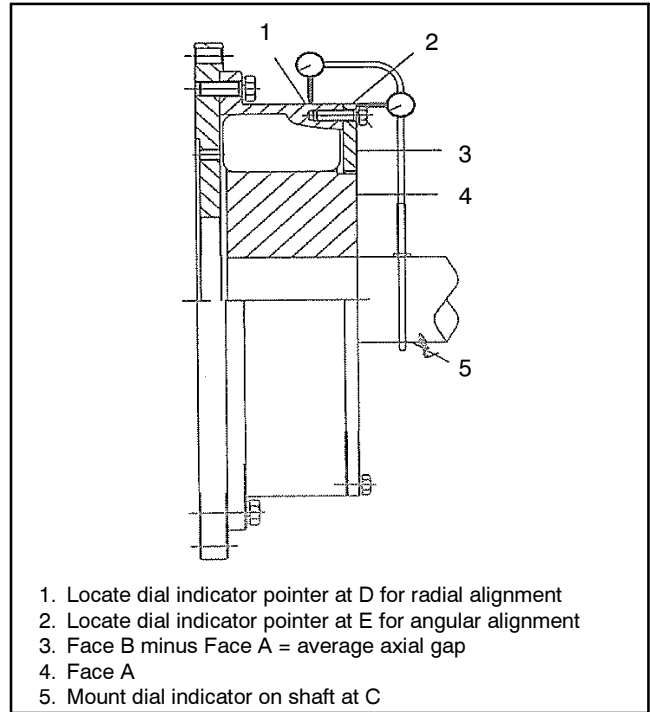
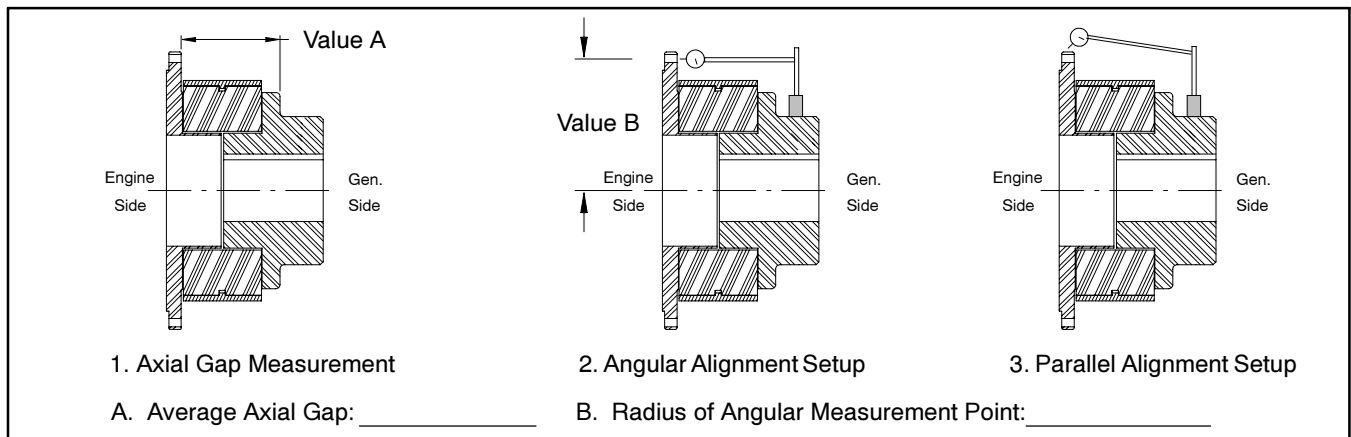
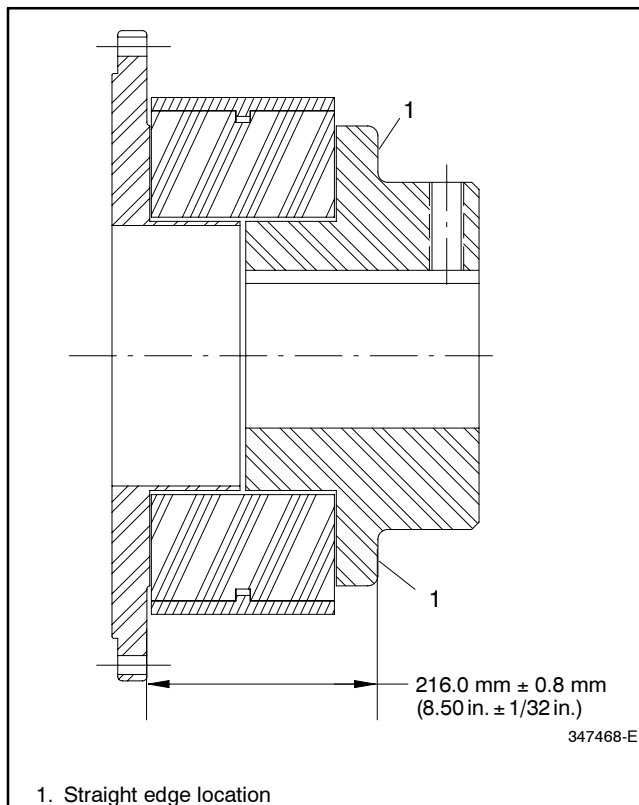
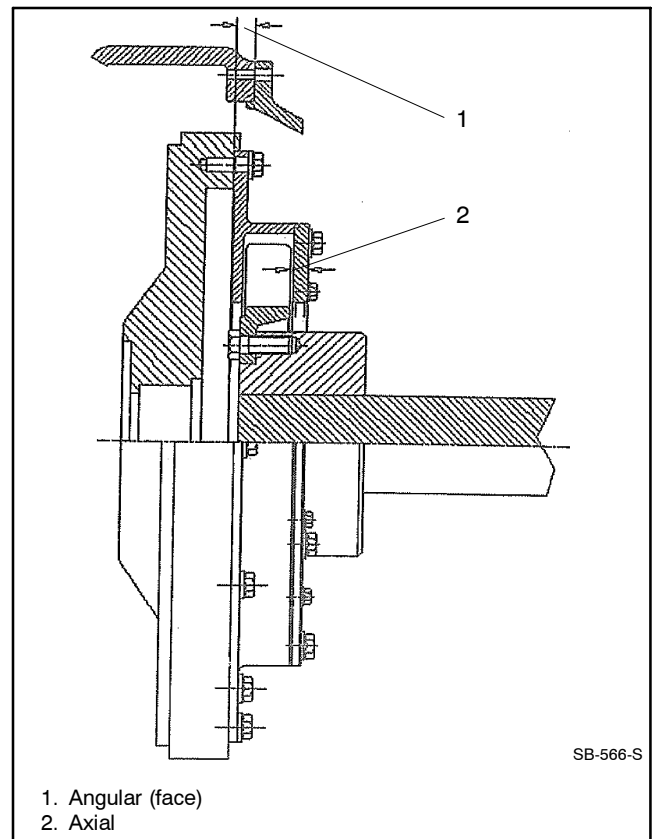

Figure 3-7 Dial Indicator Setup (RB Coupling)
Figure 3-8 Dial Indicator Setup (HTB Coupling)
Figure 3-11 Axial Alignment Measurement with Atraflex Coupling (2000 kW)
Figure 3-12 Axial Alignment Measurement with HTB Coupling (2500/2800 kW)
- a. Attach the dial indicator bases to one of the coupling halves and locate the dial indicators for measurements as shown in Figure 3-7 for RB couplings and Figure 3-8 for HTB couplings.
- a. Inspect axial alignment. Use a graduated ruler or inside caliper and straight edge to measure axial alignment. See Figure 3-7, Figure 3-11, or Figure 3-12. Keep straight edge away from the inside radius.